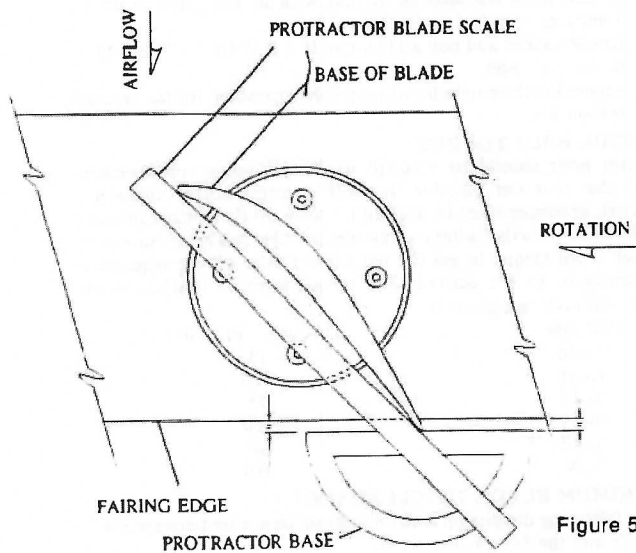

Figure 5
- c. Check angle by placing the blade of the protractor (scale) across the root (base) of the blade. When the proper angle is found the base of the protractor should be parallel to the edge of the fairing. See fig. 5.